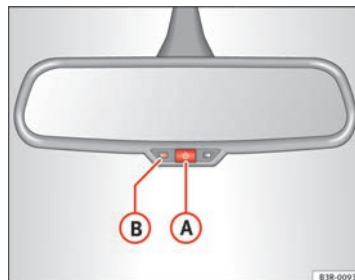

Fig. 103 Interior mirror with anti-dazzle setting: Indicator lamp and on/off switch ▶
- Press button **(A)** ⇒ **fig. 103**. Indicator lamp **(B)** goes off.
- Press button **(A)** ⇒ **fig. 103**. Indicator lamp **(B)** turns on.